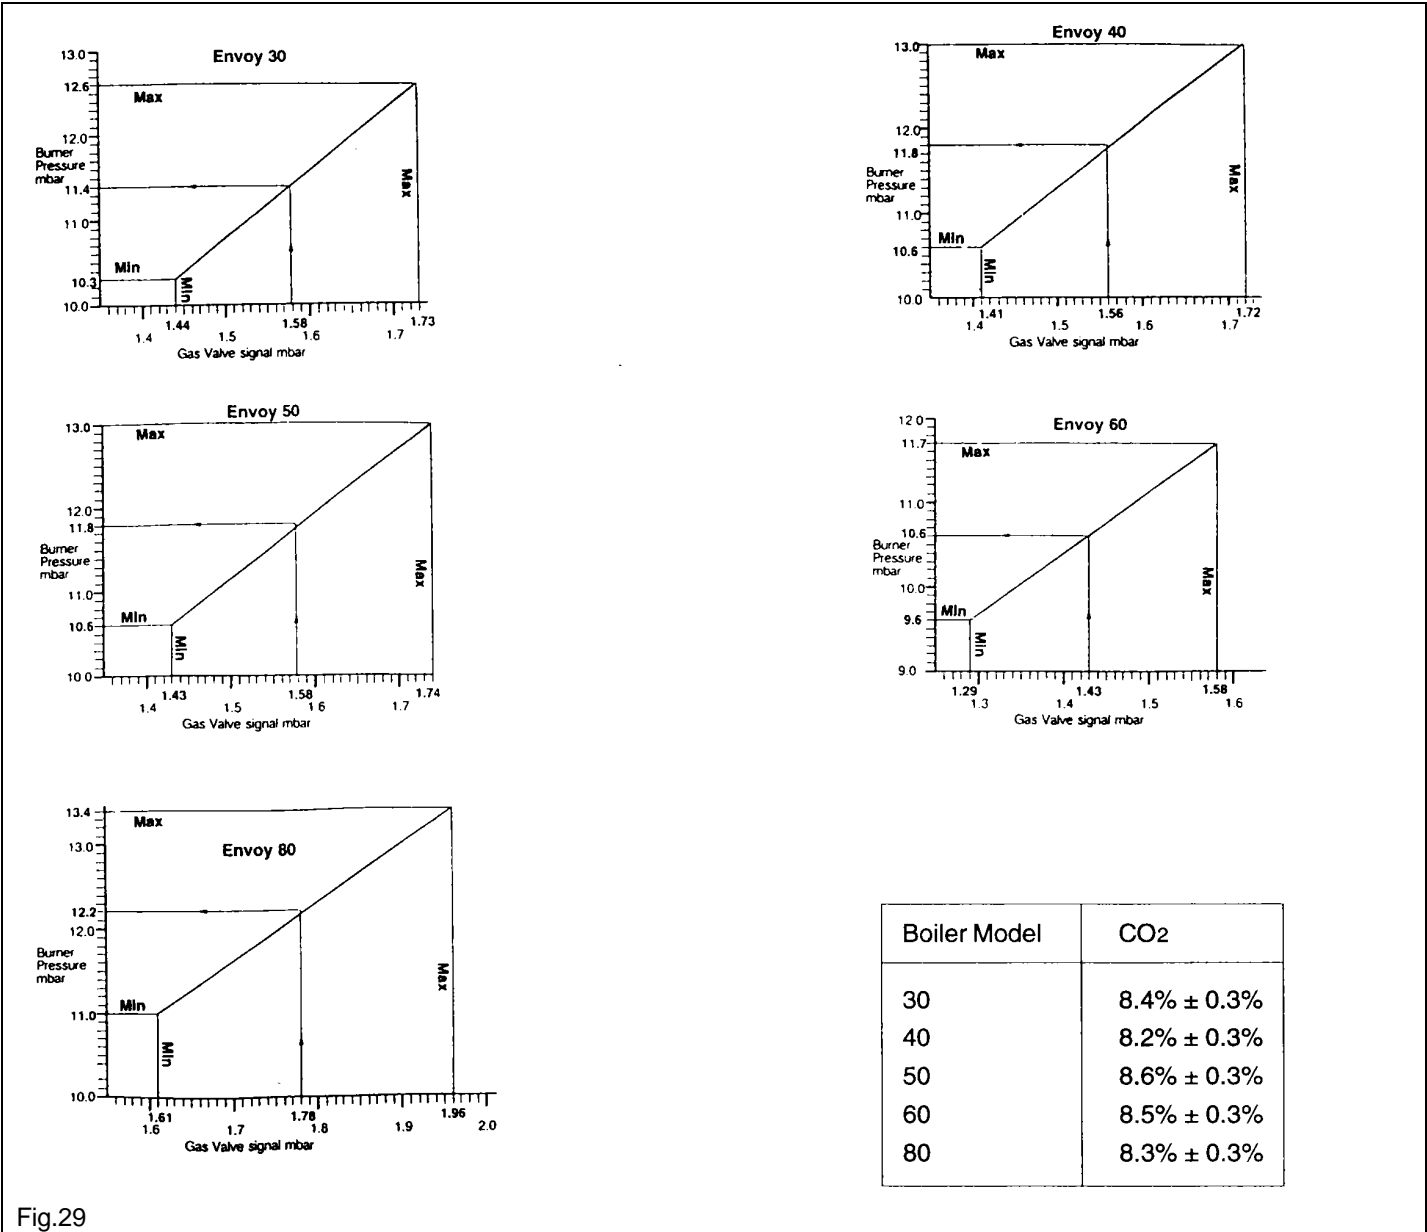

Fig.29
3. Note the gas valve signal pressure (differential pressure gauge 2) set the burner pressure (differential pressure gauge 1) to the corresponding value shown in Fig. 29 for the appropriate boiler. Screw the adjuster in to decrease pressure and out to increase pressure.